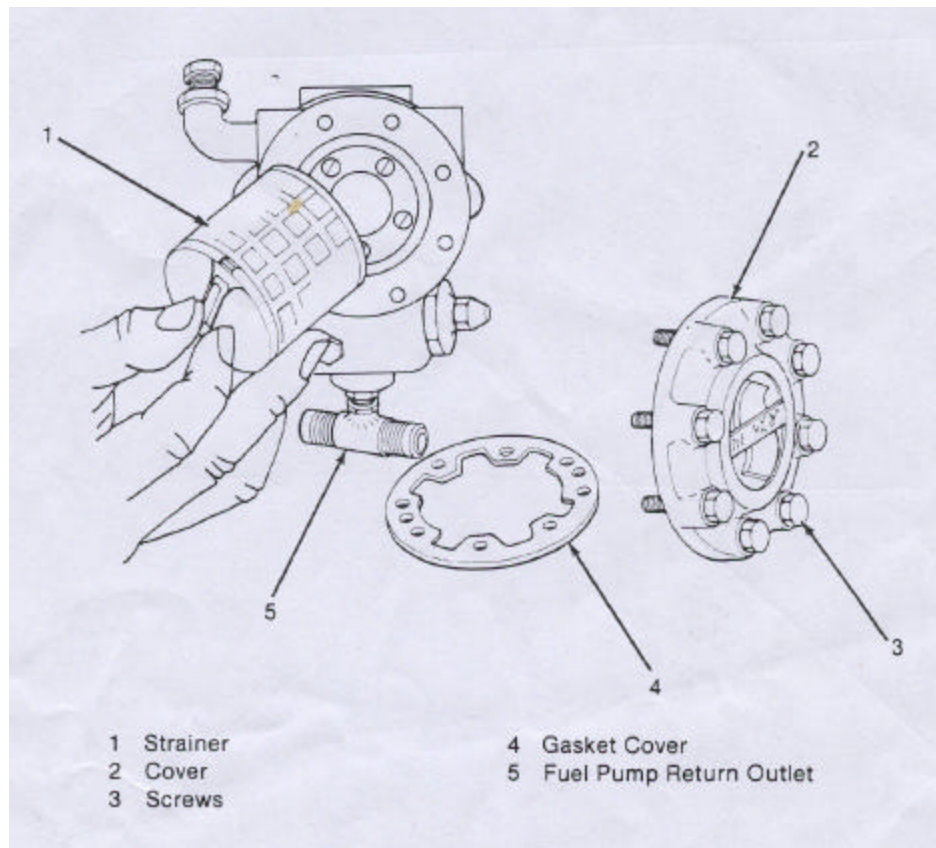

Figure 4-7
(2) Replacement (Replace defective fuel pump and fuel filter with serviceable ones.)
(3) Fuel pump, strainer removal **(Figure 4-7)**